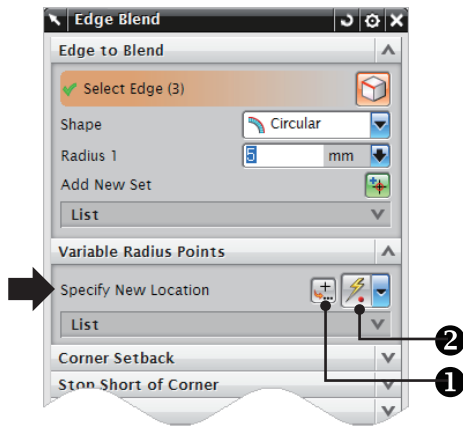

Fig 6-27 Specify New Location
6. Click the Specify **New Location** option as designated by the arrow in Fig 6-27.
Option buttons **1** and **2** specified in Fig 6-27 are the Point Constructor and Snap Point options, respectively. After clicking the title of the **Specify New Location** option, you can select points using the Snap Point option in the selection bar. The options **1** and **2** are used when you cannot select the desired points with the **Snap Point** option.